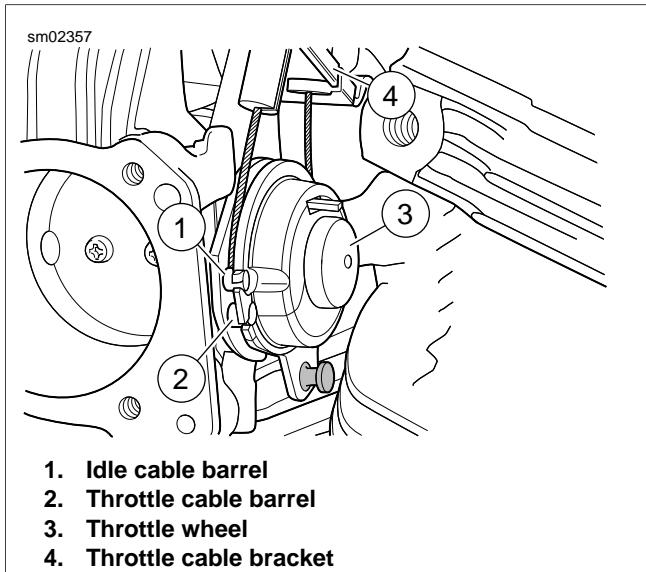

Figure 4-18. Throttle/Idle Cables
4. See Figure 4-18. Pull idle cable barrel (1) from upper hole in throttle wheel. Pull throttle cable barrel (2) from lower hole. Using slots, release idle and throttle cables from guides in throttle cable bracket.
4. See Figure 4-18. Install sleeve on throttle cable housing into cable guide at top of throttle cable bracket (4). Drawing throttle cable downward, fit barrel end (2) into lower hole in throttle wheel (3). Install sleeve and spring on idle cable